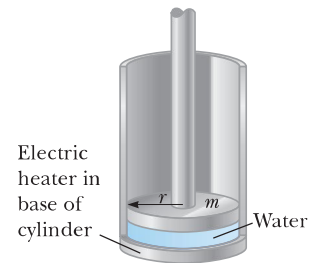

Figure P20.81
**81.** Consider the piston-cylinder apparatus shown in Figure P20.81. The bottom of the cylinder contains 2.00 kg of water at just under 100.0°C. The cylinder has a radius of  $r = 7.50$  cm. The piston of mass  $m = 3.00$  kg sits on the surface of the water. An electric heater in the cylinder base transfers energy into the water at a rate of 100 W. Assume the cylinder is much taller than shown in the figure, so we don't need to be concerned about the piston reaching the top of the cylinder. (a) Once the water begins boiling, how fast is the piston rising? Model the steam as an ideal gas. (b) After the water has completely turned to steam and the heater continues to transfer energy to the steam at the same rate, how fast is the piston rising?